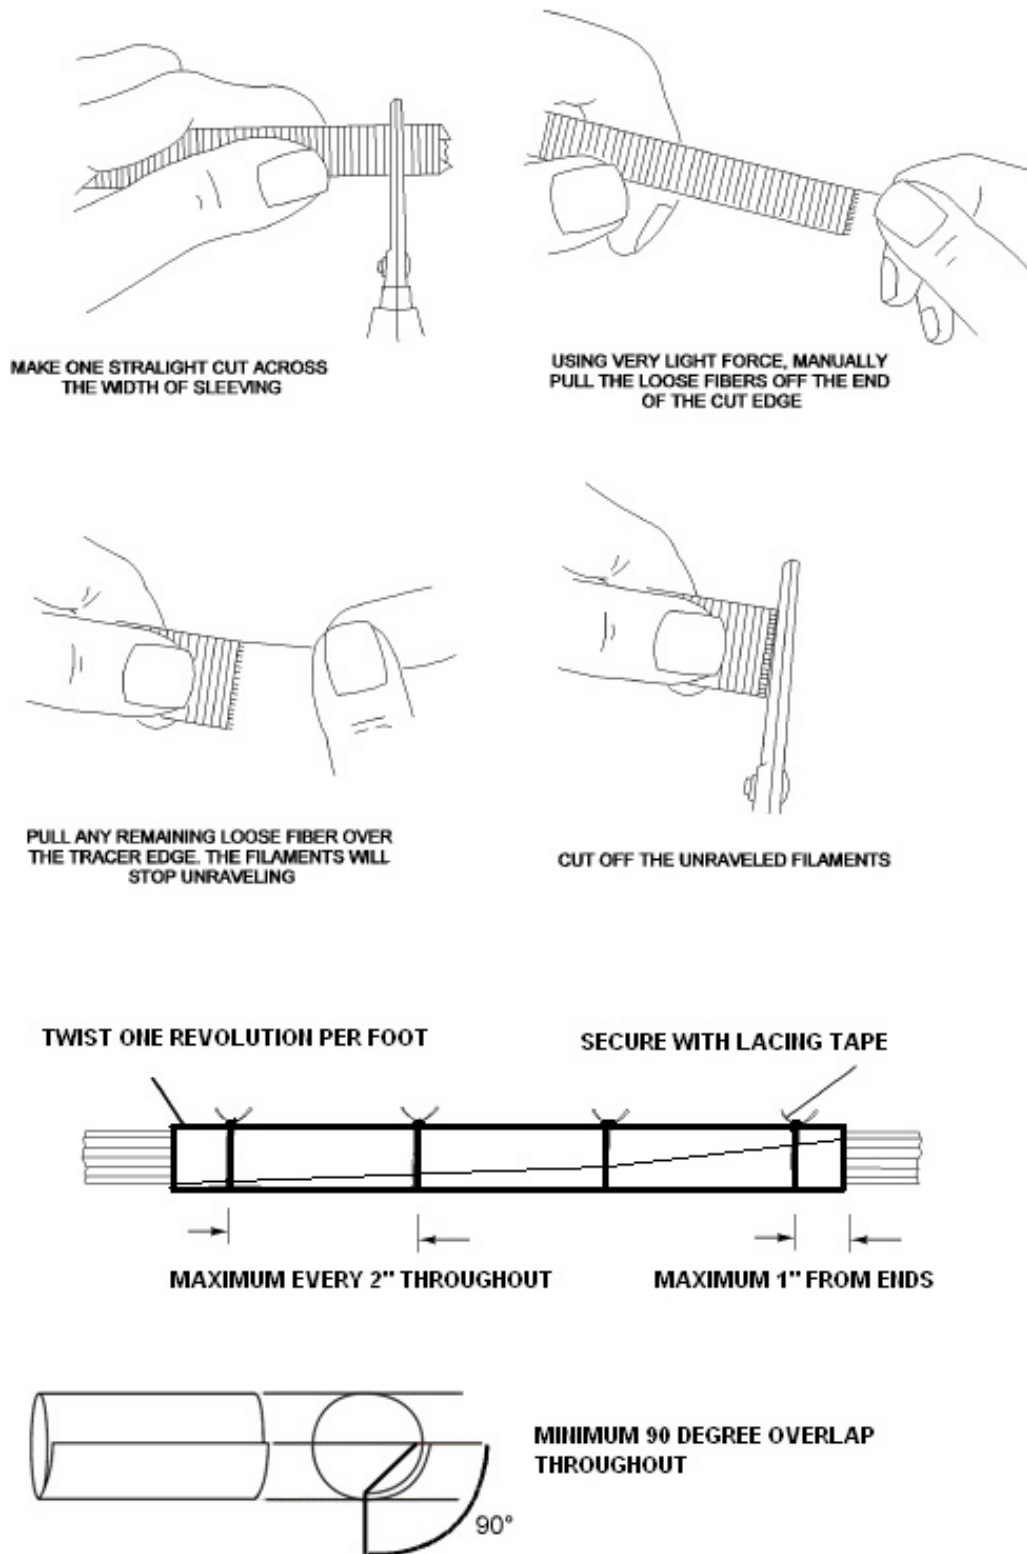

Figure 18. Wrap around Sleeving Installation
28. Installation of Medium, Elevated and High Temperature Application Wrap Around Sleeving. Using sharp scissors, trim adequate length for the application. Trim off any excess strands, or filaments to prevent it from fraying. (Figure 18). This sleeving requires a 90 degree overlap of material to ensure protection and prevent creating a FOD hazard. Wrap-around sleeving sizing is based on the nominal size of the wire bundle, determined by wrapping the material around the bundle and ensuring a 90 degree overlap. In order to accommodate bends in the wire harness and ensure uniform coverage, one full revolution (twist) per foot of the wrap around sleeving is required. Secure using lacing tape (A-A-52084, or A-A-52083) within one inch of both ends and every two inches throughout the length.